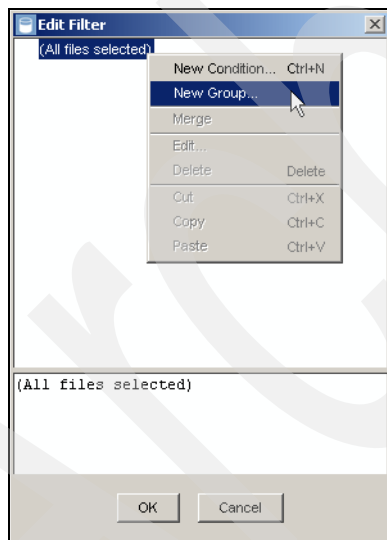

Figure 2-5 Add new filter group
5. Start adding conditions by right-clicking on an empty filter panel as in Figure 2-5 and start by creating a new group.